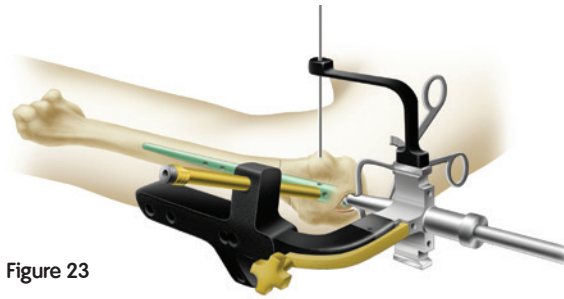

Figure 23
2. Insert the sleeve unit into the Proximal Drop (Figure 23).